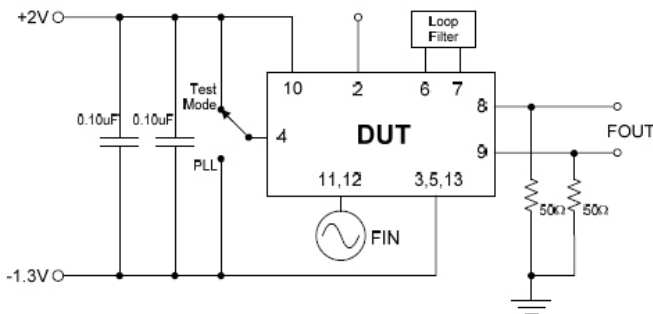

Figure 2. LVPECL Test Circuit
2. Parameters are tested with production test circuit below (Fig 2).